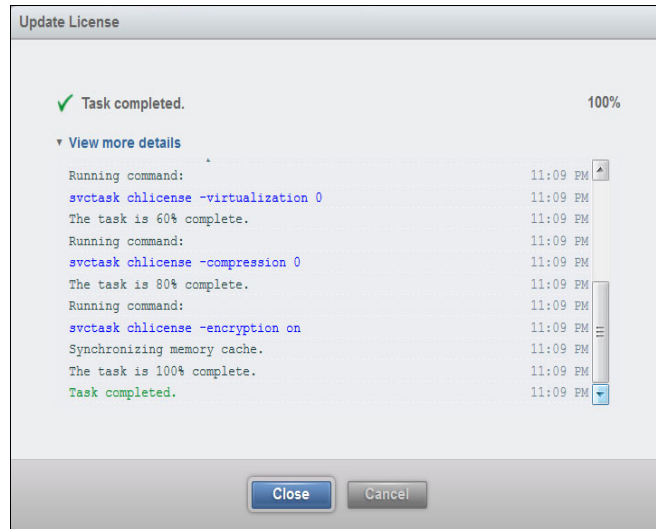

Figure 9-57 License Updated
3. Review the commands that run, enabling the licenses, and then click **Close** (Figure 9-57).